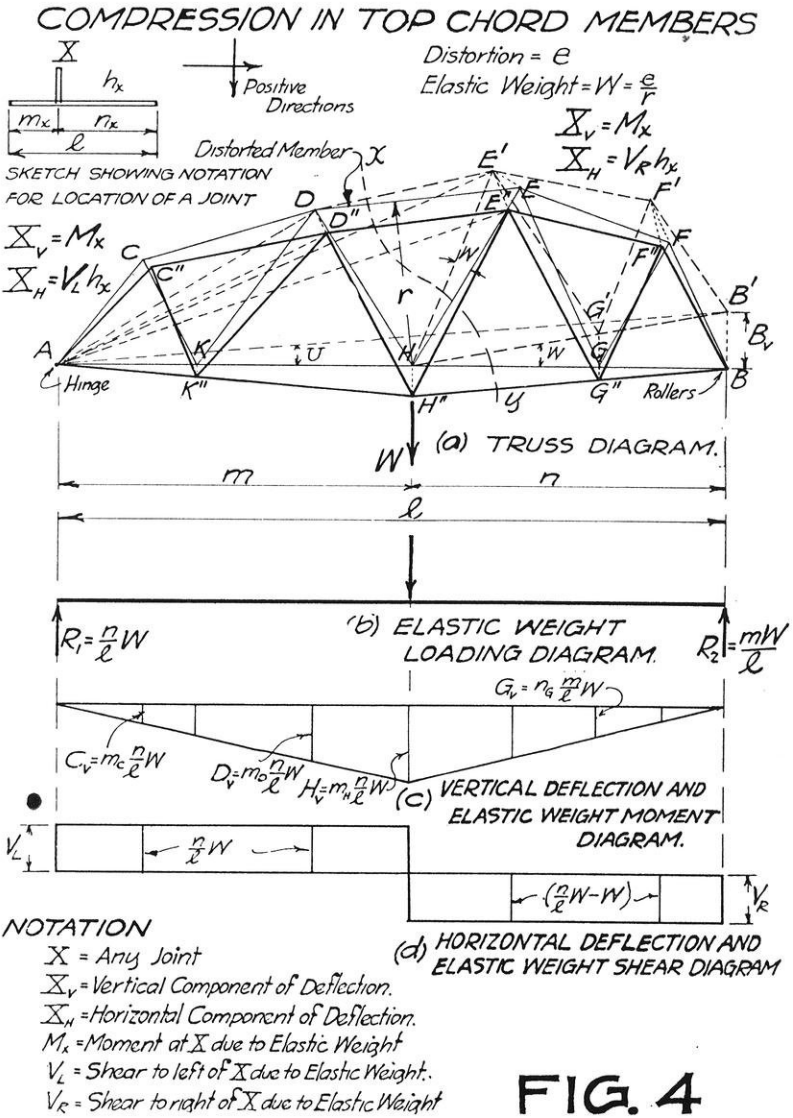

FIG. 4
Fig. 4 shows a typical simple truss supported at points A and B. Any upper chord member, as DE, is assumed to be shortened an amount  $e$  due to a compressive stress. All other members are assumed to be unstressed, so that the displacement is due entirely to the member indicated. As stated by the second principle of kinematics given above, the center of relative rotation of the two parts ACDHK and HEFGB into which the structure is divided by the distorted member, is located at H, the moment center for that member. It is also stated that the relative rotation of the two parts mentioned above is measured by an angle, which will be called  $W$ , whose value is equal to the distortion of the member divided by its moment lever arm, which will be called  $r$ ; that is,
An examination of Fig. 4 shows that this rotation has caused point B to rise from its supports a distance  $B_v$ . From eq. (1),  $B_v = n W$ , where  $W$  is the change in angle DHE due to the shortening of the upper chord member DE, as given by eq. (3), and  $n$  is the horizontal distance from H, the center of rotation, to B, the point whose motion is desired.
In Fig. 4, the heavy lines indicate the final deflected position of the distorted structure. For any given point, the displacement is shown by the relative positions of the corresponding points in the undeformed truss, shown by the light lines, and the deformed truss, shown by the heavy lines.
where  $m_a$  is the horizontal distance from D to A, and  $h_a$  is the height of the truss at D. This notation is as shown on the sketch given in Fig. 4. The sign notation used above is shown by the arrows on Fig. 4; positive directions are downward and to the right.
It can be shown that the vertical displacements of joints C, K, and H are given by values similar to eq. (5), and that the displacements are proportional to the distances from A to the point in question. These values are plotted on the vertical displacement diagram of Fig. 4(c).
The horizontal deflection of K and H is zero, for, since the height of these points above the horizontal is zero, eq. (2) shows that they have no horizontal motion. For joint C, we have  $C_h = + h_c n W/l$ . This differs from eq. (6) only in that  $h_c$  is substituted for  $h_a$ ; each value has a common term  $n W/l$ . In plotting the horizontal displacement diagram, only this common term will be used, as shown in Fig. 4(d).
Next consider a point, such as E, Fig. 4(a), which is subjected to rotations of both stages. The components of displacement due to rotation of the first stage, which will be denoted by  $E'_v$  and  $E'_h$ , are,  $E'_v = - (n - n_e) W$ , and  $E'_h = - h_e W$ , where  $(n - n_e)$  and  $h_e$  are respectively the horizontal and vertical distances from H, the center of rotation, to E, the point in question.
In eqs. (7) and (8), the sign and distance notation is as shown on Fig. 4.
It will be noted that eq. (9) is similar to eq. (7). From a study of Fig. 4(a) it is quite evident that G can have no horizontal motion, for its height above both centers of rotation is zero. This can also be shown from eq. (8) by supposing that point E
Referring now to the diagram of Fig. 1, and comparing the vertical deflection diagram of Fig. 4(c) and the moment diagram of Fig 1, it will be noted that they are identical in form. On comparing the values of the ordinates at corresponding points they will be found to be identical, if  $P = W$ . From this similarity of diagrams for equal loading conditions, the following rule can be formulated: To determine the vertical deflection of the joints of a truss due to the deformation of a top chord member, place at the moment center for the distorted member an elastic weight which is equal to the deformation of the given chord member divided by its moment lever arm. For compression in the distorted member, this elastic weight acts downward; for tension it acts upward. The vertical component of the deflection of any joint is equal to the moment at the joint in question due to the elastic weight placed as noted above. Positive (clockwise) moments indicate downward deflections.
On comparing the diagram of Fig. 4 (d), as plotted for horizontal deflections, and the shear diagram of Fig. 1, it can be seen that if  $P = W$ , these diagrams are identical. Therefore, the horizontal deflection of any joint of the truss due to the distortion of a top chord member can be expressed as a function of the shear at that point due to the same elastic weight as used for vertical deflections. The following rule can then be formulated: To determine the horizontal deflection of any joint in a truss due to the distortion of a top chord member, apply the same elastic weight as defined above for vertical deflections. The horizontal deflection of any joint of the truss is equal to the shear at that joint multiplied by the vertical distance from the joint in question to the horizontal line joining the points of support. Positive values indicate deflection to the right.
On Fig. 4 (a) the rules stated for the determination of vertical and horizontal deflections are stated in symbolic form. These symbols are explained under "Notation" on Fig. 4. The value  $X_h = V_l h_x$  applies to all joints to the left of the dotted section  $x-y$ , while  $X_h = V_r h_x$  holds for all joints to the right. Since  $h_x = 0$  for all lower chord joints,  $X_h = 0$  is a special value for these joints.
On referring to Fig. 4 (d), it will be found that  $(n W/l - W)$  is the shear to the right of the elastic weight, and hence eq. (11) can be written,
General values for the deflections of joints are indicated on Fig. 5, using the notation outlined on Fig. 4.